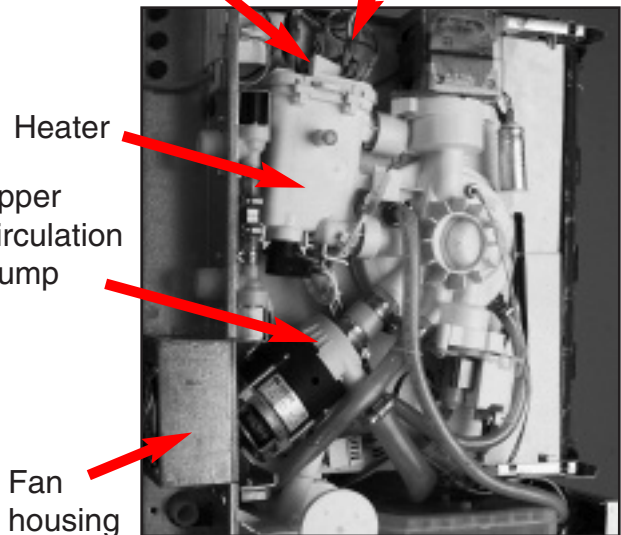

Figure 20
1. Possible Cause is overheating of the circulation pump. Indication of this cause is if the machine gives CF1 error code during a cycle, but runs normally if the machine is allowed to cool down. Check if the cooling fan is running when the circulation pump is running. If not, replace the fan (Figure 20). If the fan is OK, proceed to step 2.
3. Using the debug screen, monitor the pressure switch during disinfection (P3 only). If the switch turns OFF, the pump is overheating. Check and replace the cooling fan and/or the upper circulation pump (Figure 20). If OK, proceed to step 4.